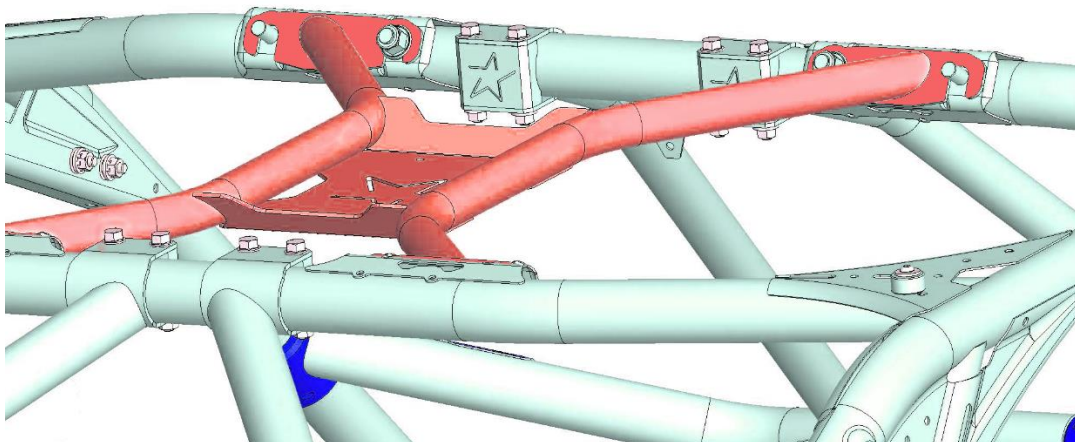

Figure 1-1
1. Remove factory X-Brace and install the Lone Star Racing X-Brace and attach using the M12x1.75 nylon locknuts. Do not install the front outer M12x1.75 nylon locknuts at this time. torque all other bolts to 63 lb. ft.(fig 1-1)